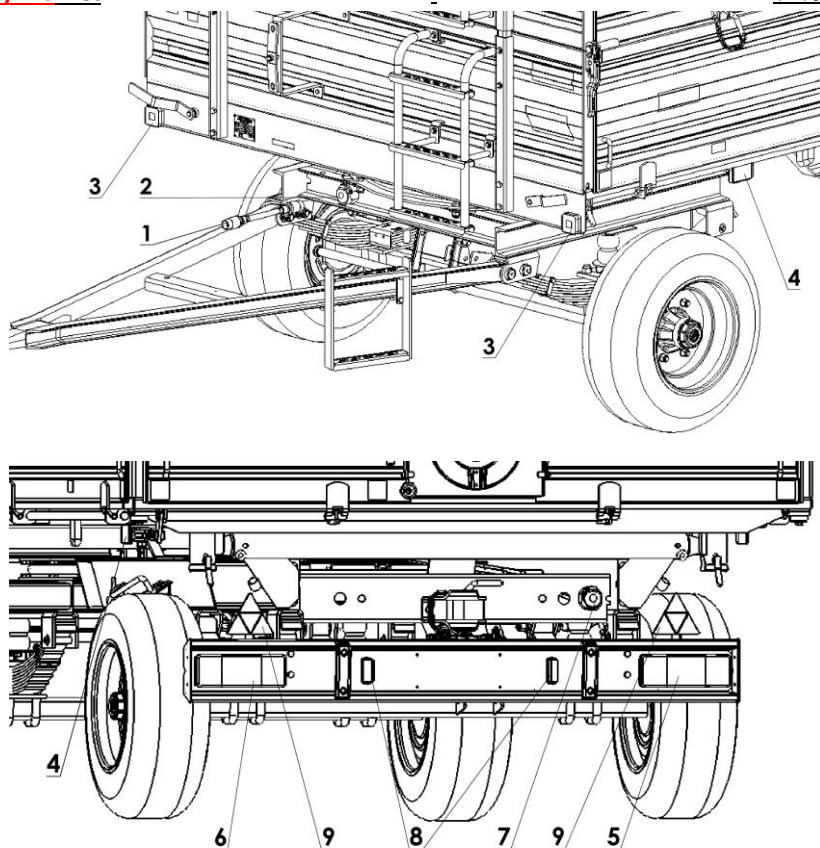

Fig. 13. Lighting and signaling diagram
The socket (7) of the connector (fig. 13) is used to connect the electrical system of the second trailer.